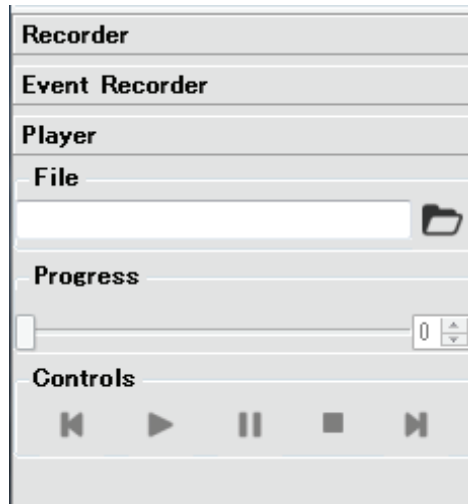

Figure 7-58 Log player window
- 4 Select the log data file for re-playing (Figure 7-58).